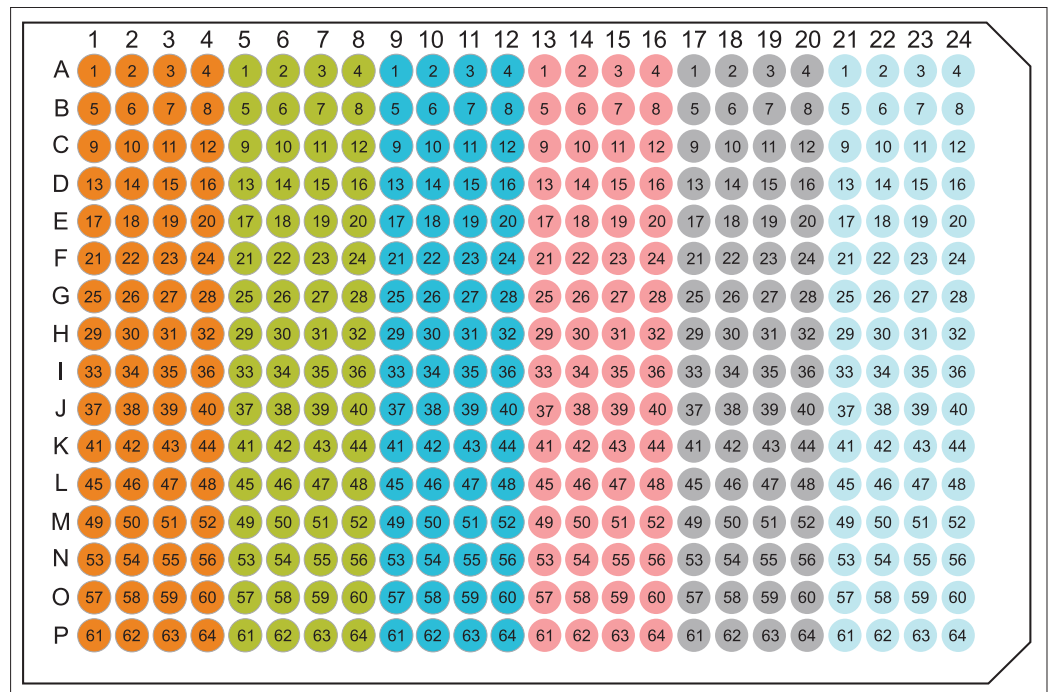

Figure 2 384-well plate layout: 64 assay format
2. Transfer 5 μ L of the reaction mix for samples 1–6 (see page 2) from the sample plate into the appropriate wells of the 384-well plate (Figure 2 on page 3).